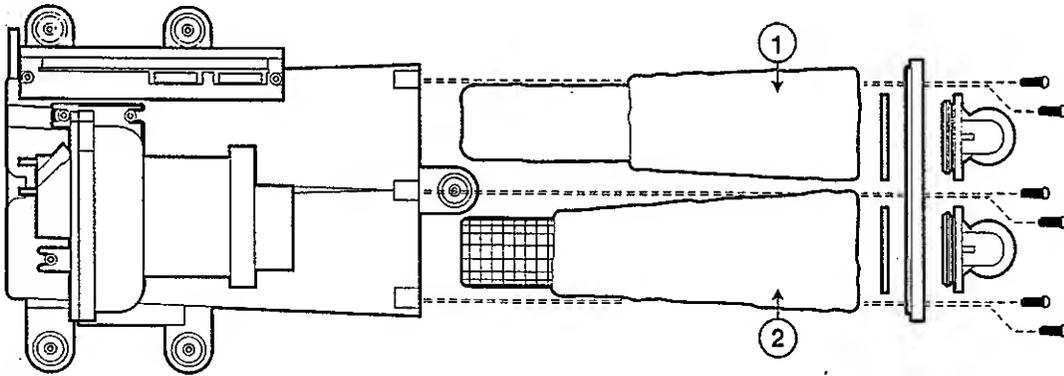

Figure 5-12. Muffler/Filter Core Assembly
- 4 Referring to Figure 5-12, remove the six (6) screws holding the end caps on the muffler tube and remove the caps and elbows as an assembly
- 6 Referring to Figure 5-12, insert the element with the filter into the tube using a clockwise insertion motion.